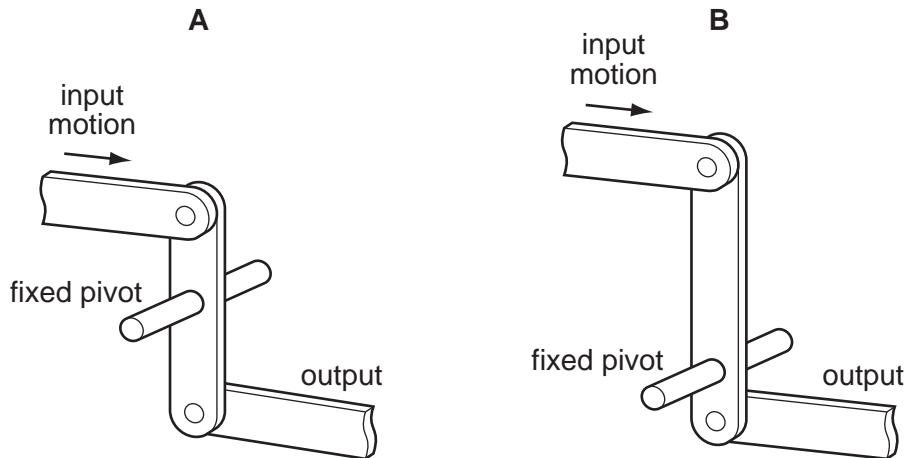

Fig. 4
- 11 Fig. 4 shows two linkages.